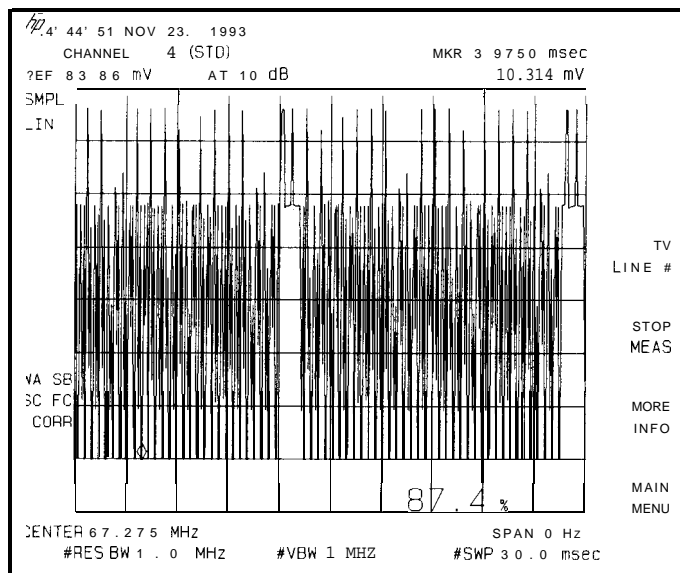

Figure 2-20. Depth of Video Modulation Measurement
2. The result is displayed at the bottom of the screen. This result is updated every 10 analyzer sweeps (approximately every 3 seconds) and continues until **STOP MEAS** or **MAIN MENU** is pressed. See Figure 2-20.